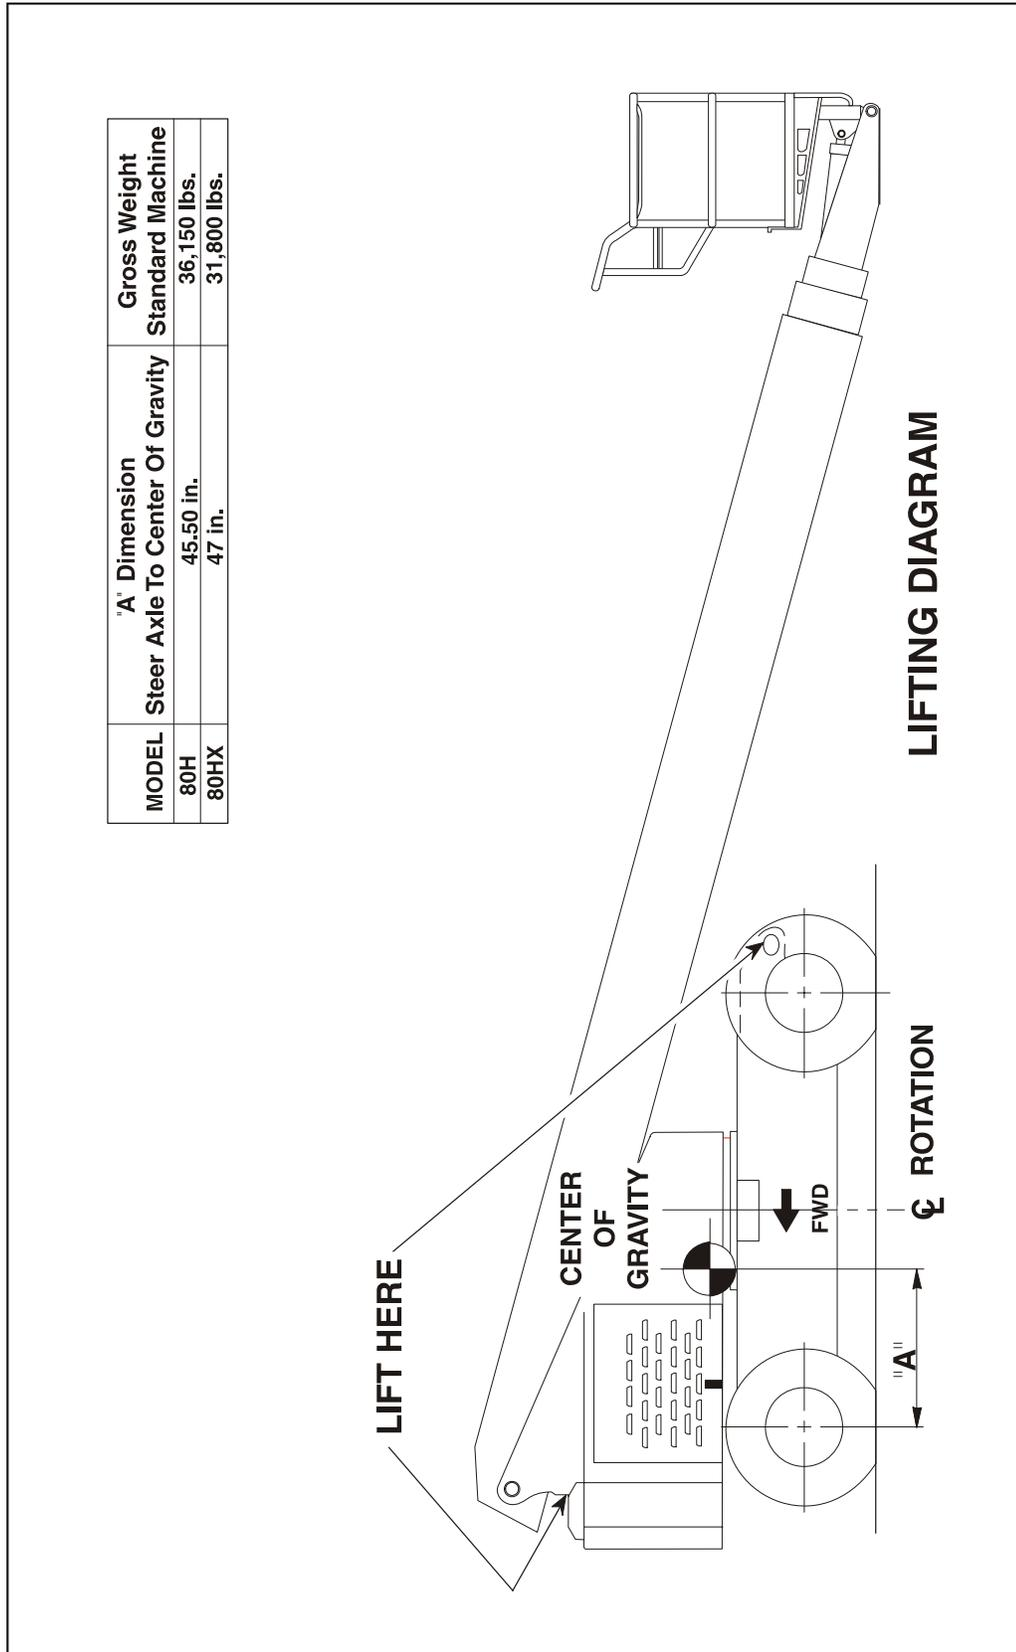

Figure 4-2. Lifting Chart
If it becomes necessary to lift the machine using an overhead or mobile crane, it is very important that the lifting devices are attached only to the designated lifting eyes, and that the turntable lock pin is engaged. See Figure 4-2, Lifting Chart.
3. Disconnect drive hubs by inverting disconnect cap. (See Figure 4-2.)
2. Reconnect drive hubs by inverting disconnect cap. (See Figure 4-2.)